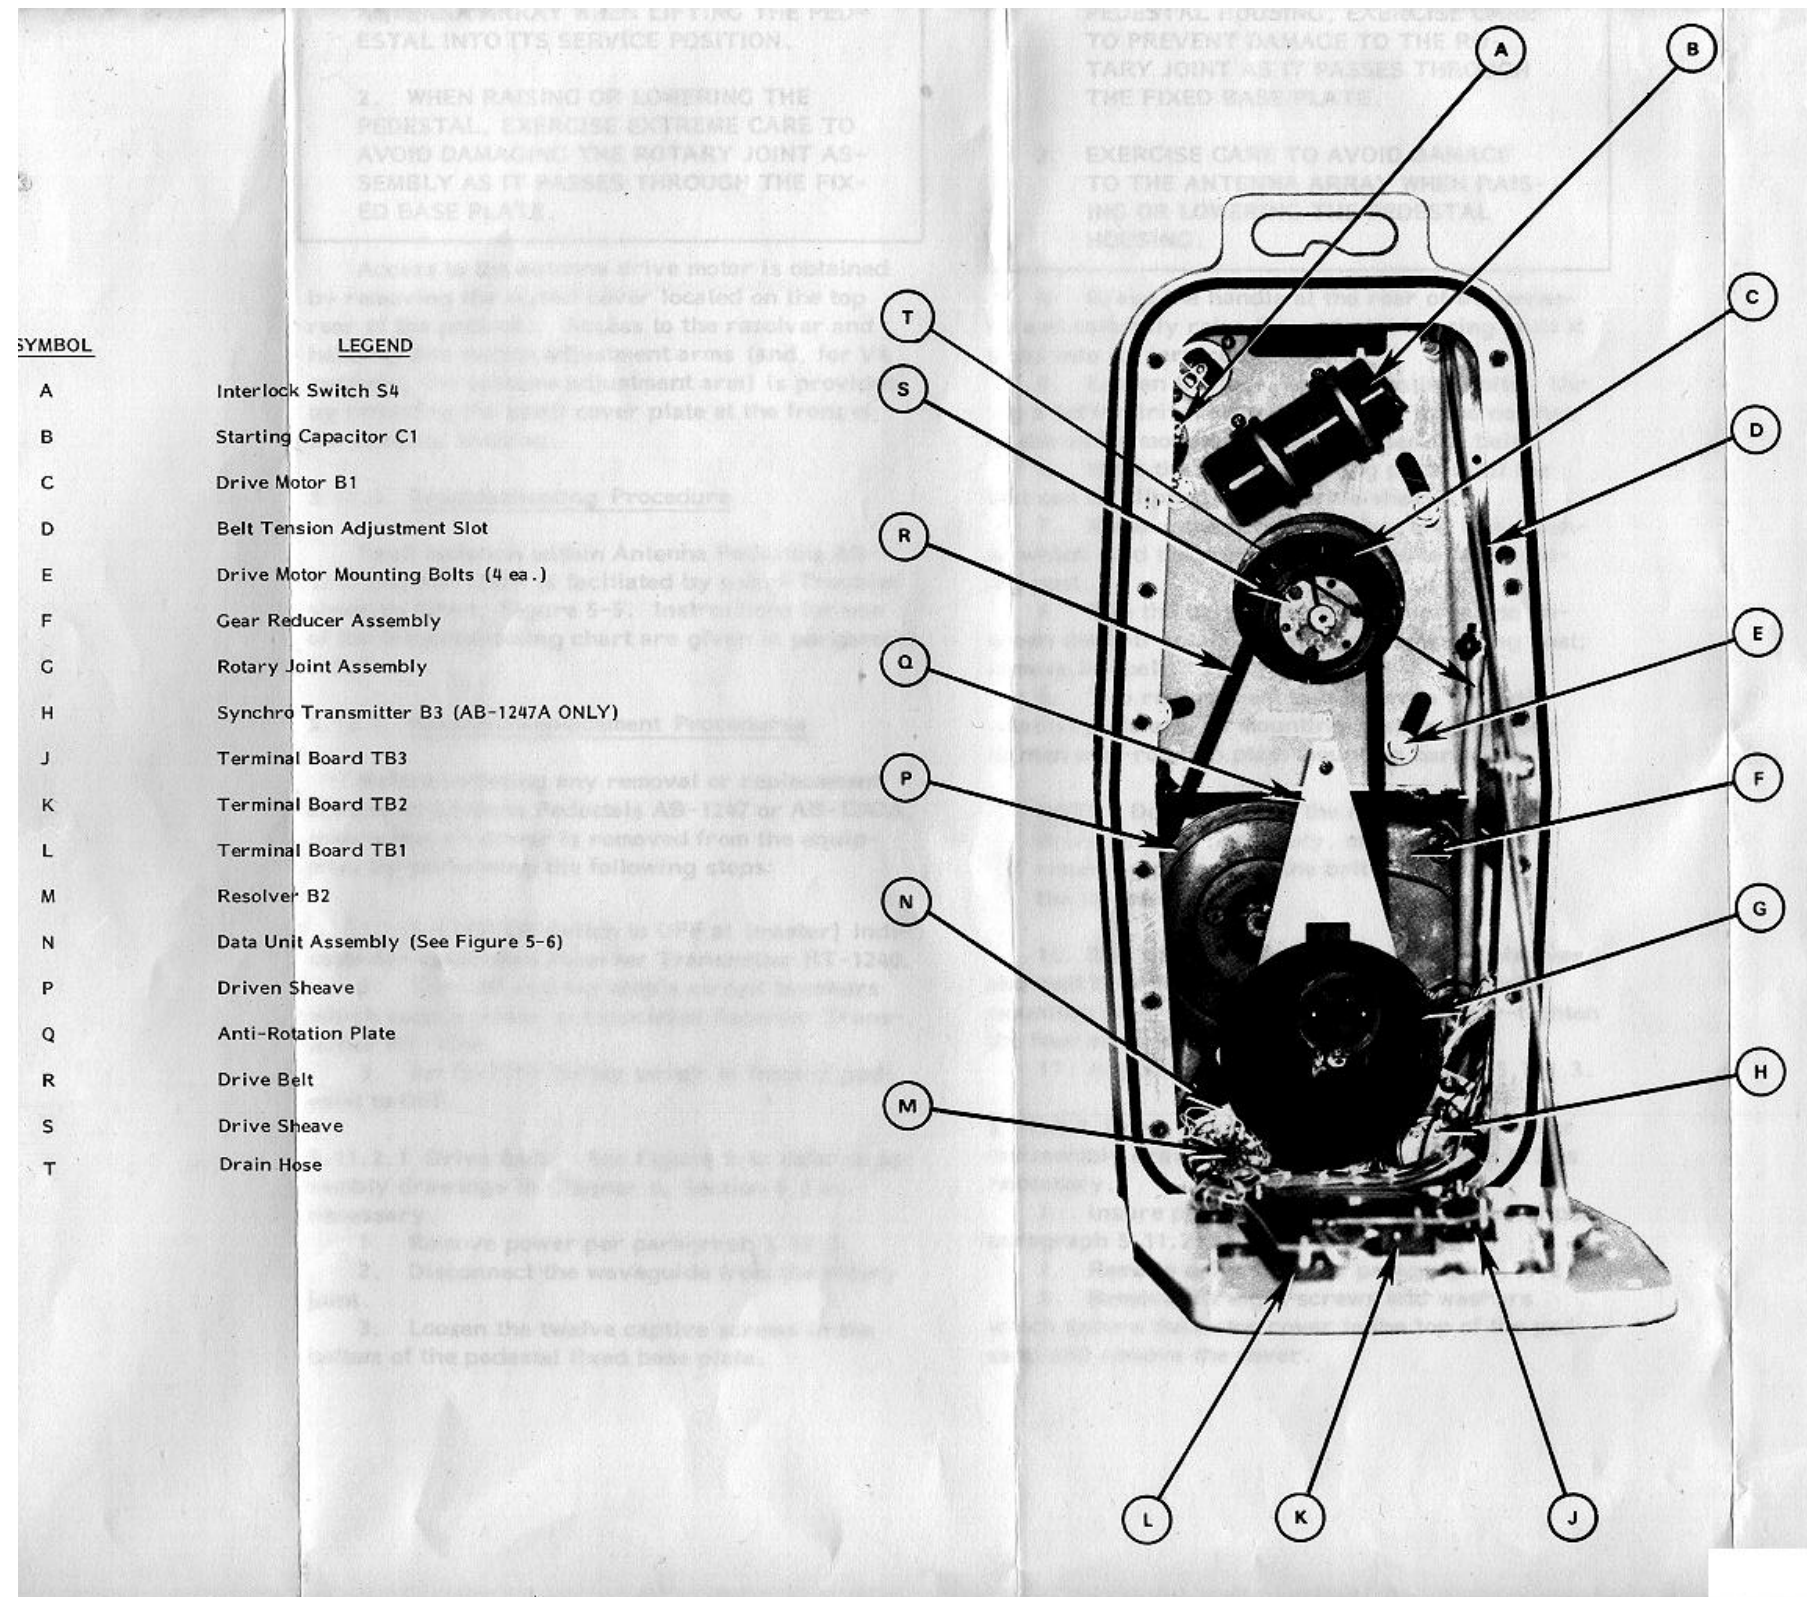

Figure 5-4 Antenna Pedestal AB-1247 Parts Location
Paragraphs 5.11.1 through 5.11.3 and their related subparagraphs provide corrective maintenance information for Antenna Pedestals AB-1247 (V1, V2, V3 X-band) and AB-1247A (V4 X-band, with synchro transmitter). The information includes troubleshooting instructions (5.11.1), removal and replacement procedures (5.11.2) and alignment procedures (5.11.3). The locations of assemblies and major components within the antenna pedestals are shown in Figure 5-4. Schematic diagrams, parts list tables and assembly drawings applicable to the AB-1247 and AB-1247A pedestals are contained in Section 6.3 of Chapter 6.
5.11.2.1 Drive Belt. - See Figure 5-4; refer to assembly drawings in Chapter 6, Section 6.3 as necessary .
5.11.2.2 Drive Motor B1. - See Figure 5-4; refer to assembly drawings in Chapter 6, Section 6.3 as necessary.
5.11.2.3 Resolver B2. - See Figure 5-4; refer to assembly drawings in Chapter 6, Section 6.3 as necessary.
5.11.2.4 Data Unit Assembly. - See Figures 5-4 and 5-6; refer to assembly drawings in Chapter 6, Section 6.3 as necessary .
5.11.2.5 Rotary Joint Assembly. - See Figure 5-4; refer to assembly drawings in Chapter 6, Section 6.3 as necessary .
5.11.2.6 Reed Switch Assembly. - See Figures 5-4 and 5-6; refer to assembly drawings in Chapter 6, Section 6.3 a s necessary .